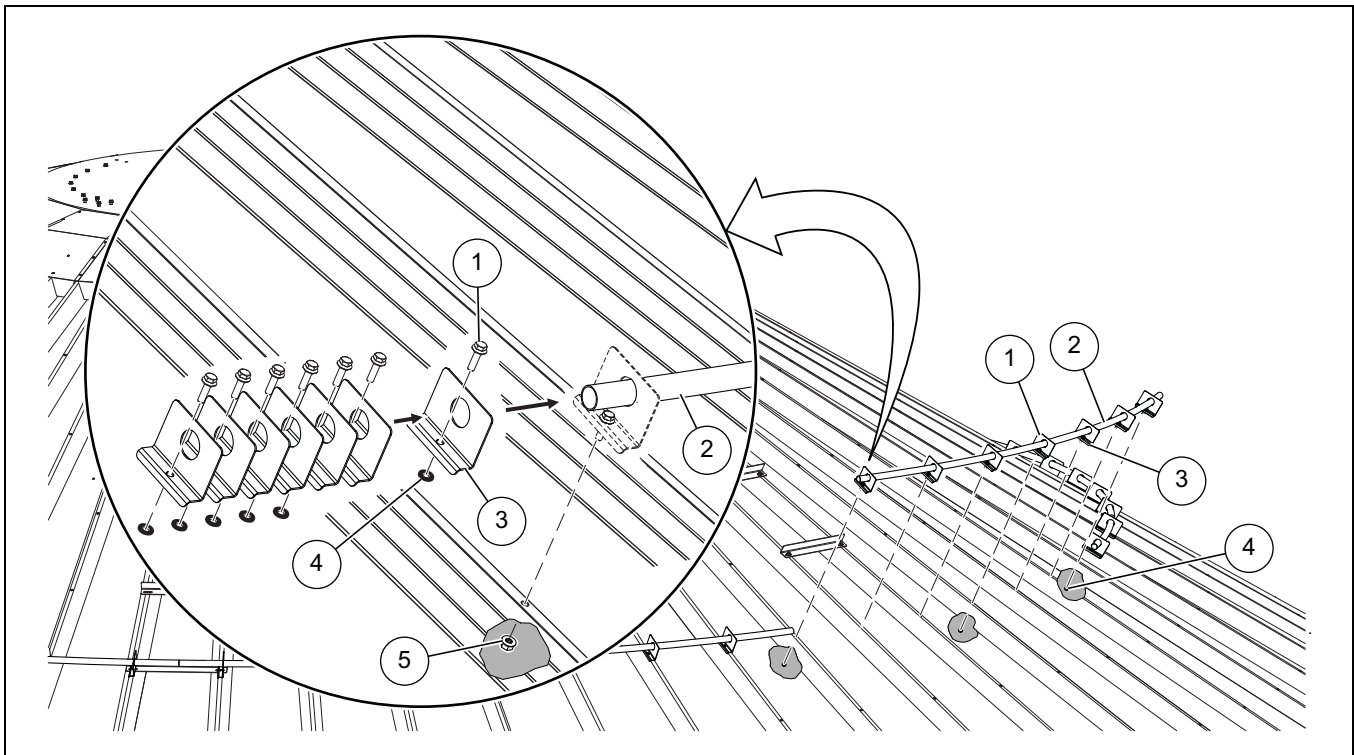

Figure 11E Roof Ring Shown
2. Install a 5/16" flange bolt (1) to the roof ring clip (3) and install a sealing washer (5) to the underside of the roof ring clip (3).
3. Slide each assembled roof ring clip (3) onto a roof ring section (2) and position each roof ring clip (3) over each roof panel rib.
4. Install a 5/16" flange nut (4) to each roof ring clip (3). (See Figure 11E.)